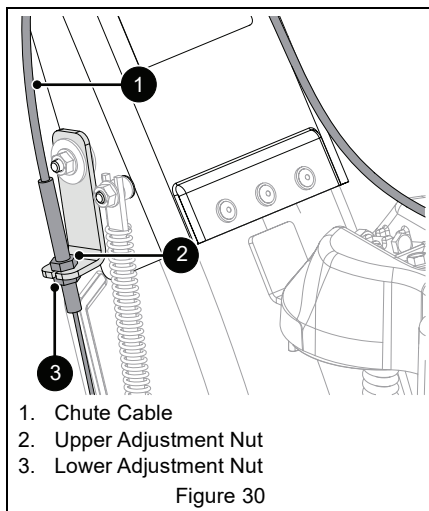

Figure 30
2. Adjust nuts on chute cable. See Figure 30.